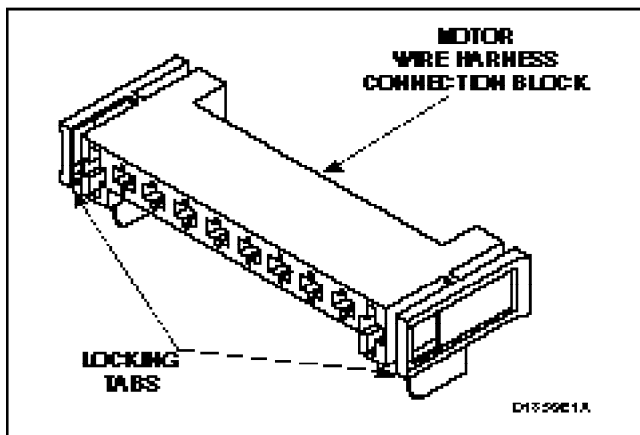

Figure 33
- Disengage motor wire harness terminal block from motor switch by pressing in on the movable locking tabs (located on each end of the terminal block) and pulling away from motor, *Figure 33*.
- (1) Disengage motor wire harness terminal block from the motor by pressing in on the movable locking tabs (located on each side of the terminal block) and pulling away from motor, *Figure 33*.